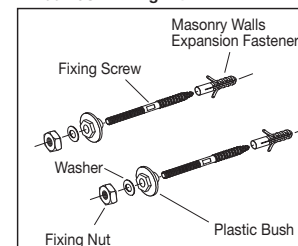

Fig. 2
- 3- Insert expansion fasteners into the drilled holes in masonry wall. The fixing screws should be screwed into the wall using the flat section of the fixing screw with a spanner as shown in **Fig. 2**. Allow 40mm of thread to protrude from the finished wall.